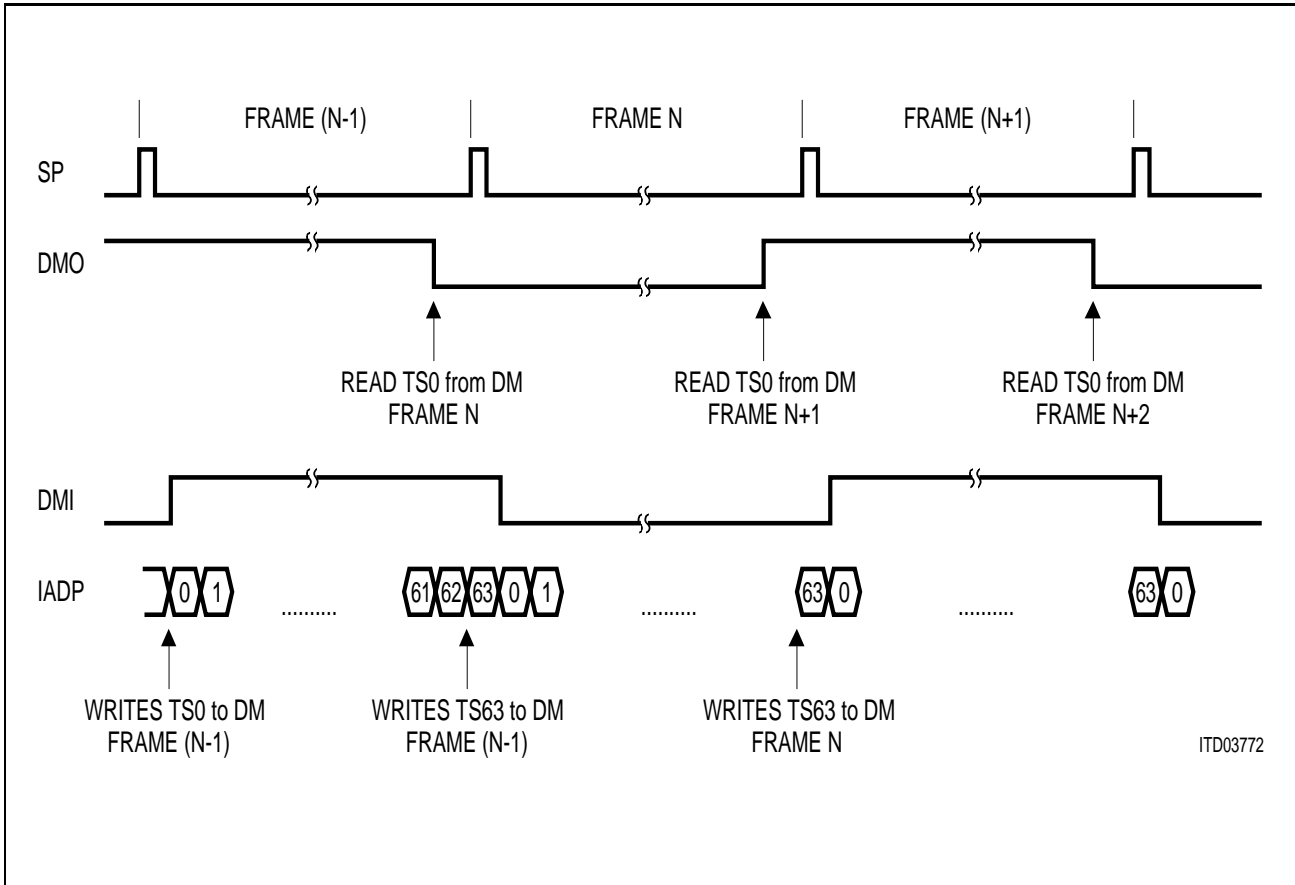

Figure 6
For outputting, the connection memory (CM) is read in sequence. Each location in the CM points to a location in the data memory. The byte in this data memory location is transferred into the current output time-slot. The read access to the CM is controlled by an output counter. An additional bit (D12) in each location of the CM controls the access to the data memories DM0 and DM1. Three address pointers – two switching aligned to the input frame (DMI, IADP), one switching aligned to the output frame (DMO) – are working in conjunction with D12 implementing the constant/minimal delay function (see figure 6).